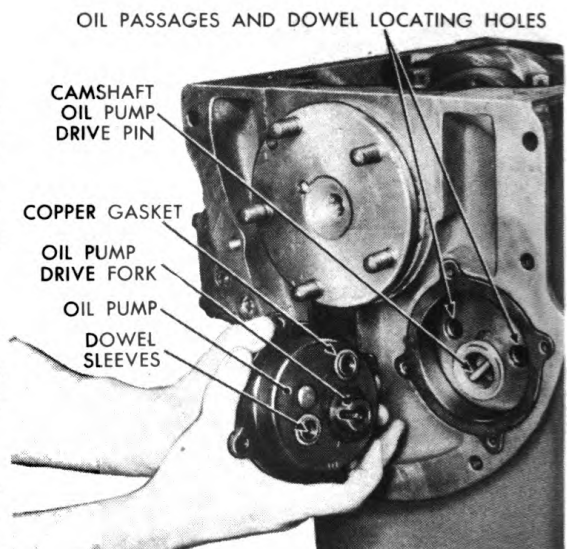

Figure 135. Removing Oil Pump.
32. Remove the oil pump which is held in place with four capscrews. See Figure 135.